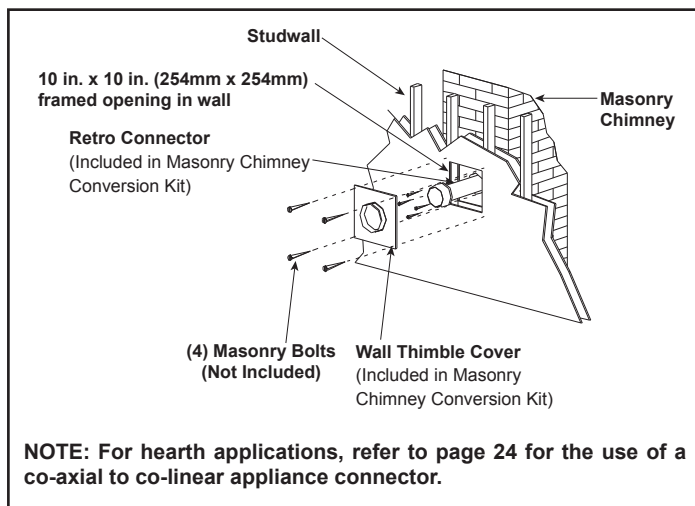
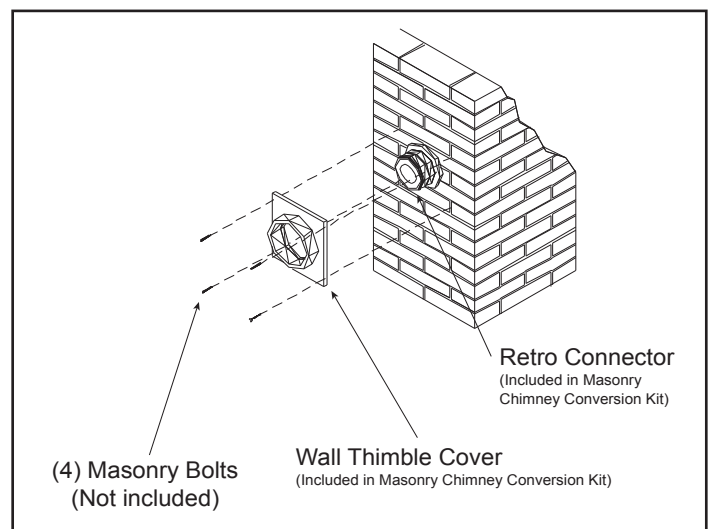

Figure 4.18
Figure 4.23
2. Once the center point of the penetration has been determined, cut a 6 in. (152mm) diameter hole in the masonry. If the hole is too large, the retro connector might not mount properly; if the hole is too small, the appliance might starve for intake air. If there is a frame wall in front of the masonry wall, cut and frame a 10 in. (254mm) square opening in the wall (centered around the 6 in. (152mm) masonry opening). If there is sheet rock only (no studs) in front of the masonry the 10 in. (254mm) opening is still needed, but does not need to be framed. If the hole is framed a wall thimble is required. This allows the retro connector to mount directly on the masonry and provide the correct clearances to combustibles. See Figure 4.18.
10. Slide wall thimble cover over retro connector and secure with masonry bolts. See Figure 4.23. If you have a framed wall in front of the masonry, use wood screws to mount wall thimble cover to framed wall, over retro connector and 10 in. (254mm) square framed opening See Figure 4.18. If needed, add a section of direct vent pipe to the retro connector in order to extend through the opening in the wall thimble cover.